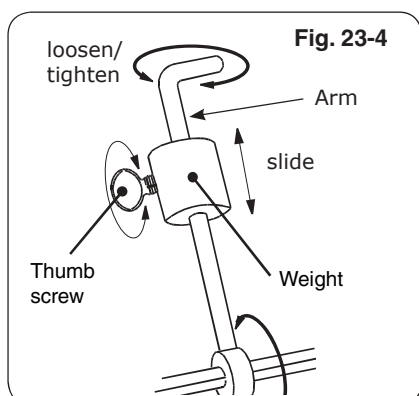
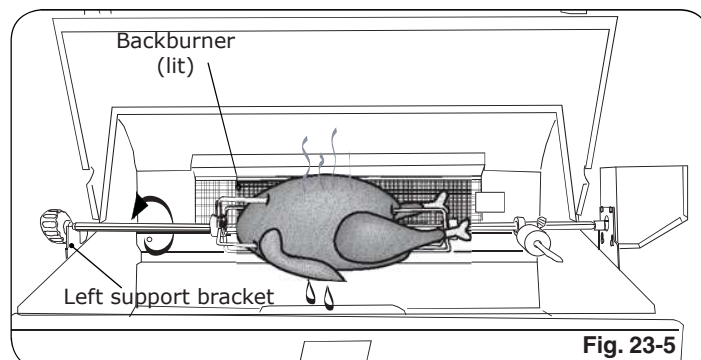

Fig. 23-4
Fig. 23-5
7. Slide the counterbalance weight up or down the arm until the rod rotates most evenly then tighten thumb screw (Fig. 23-4 and Fig. 23-5).